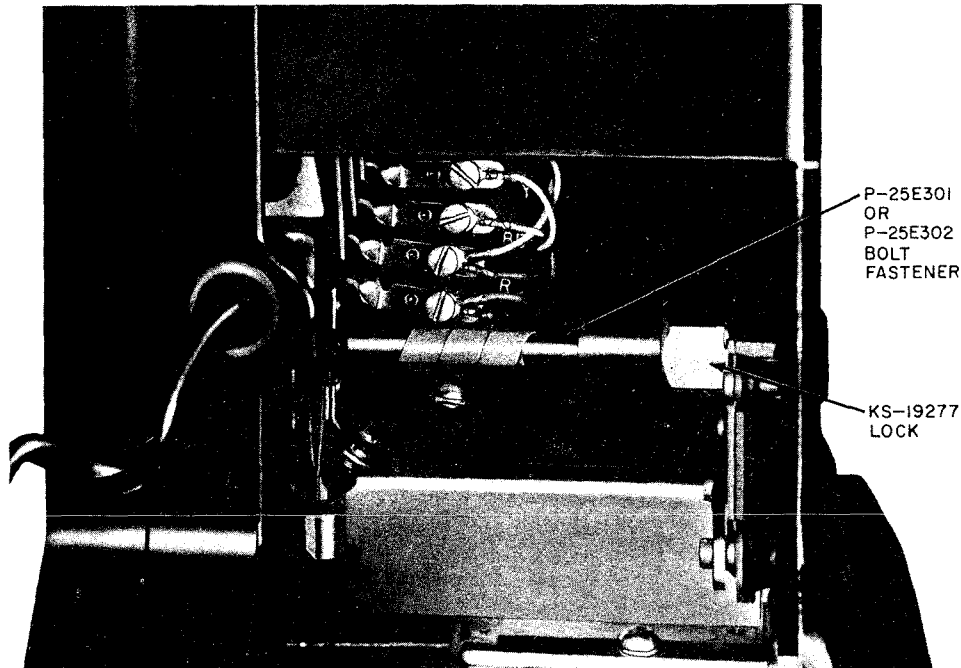

Fig. 1—Cutaway Section of Upper Housing, KS-19277 Lock and Associated Parts, Completely Installed
2.02 The 233-, 234-, 1234-type coin collectors and 236-type coin telephones are equipped with the KS-19277 lock and P-25E301 bolt fastener (Fig. 1).